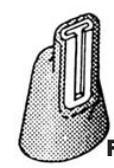

Fig. 4
6. Incorporate the female into the coping/crown. If the abutment is to have a full-coverage porcelain crown, the attachment must have a thin layer (0.4 mm minimum) of alloy surrounding the female and supporting the portion extended above the occlusal surface of the casting. This will prevent porcelain from contacting the attachment. If this is not done, chipping of the porcelain can result (Fig. 4).